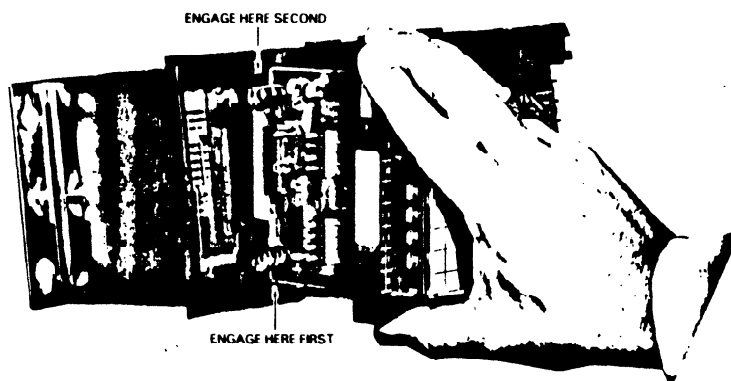

Figure 3-9. Proper Module Insertion
19. Tilt the module approximately 10° as shown in figure 3-9. Insert bottom of the large printed circuit board into the bottom card slot.